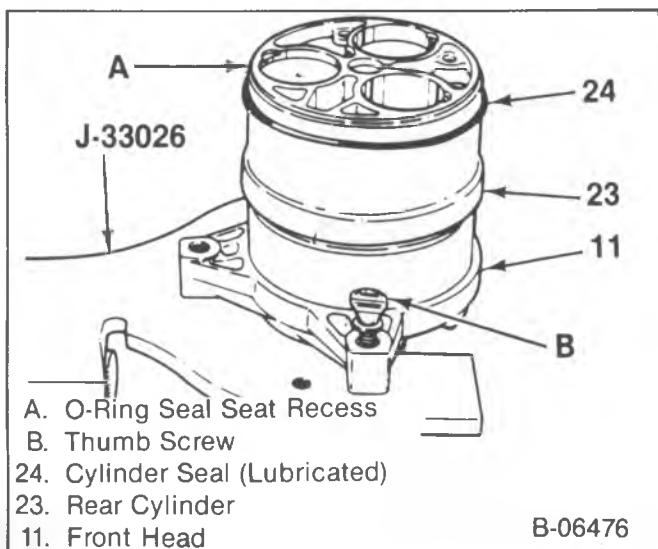
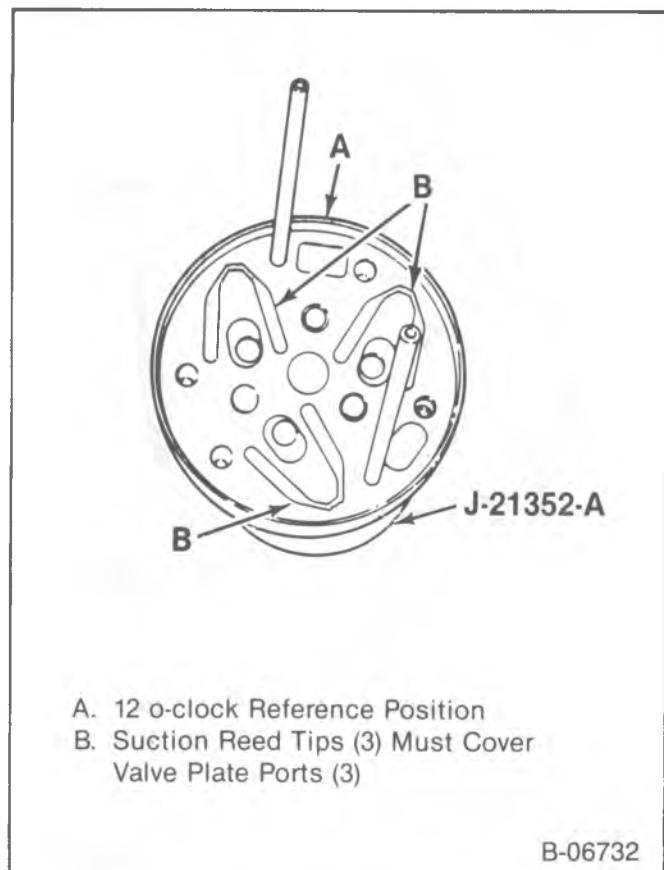

Figure 30 — Installing the O-Ring Seals on the
Figure 34 — Installing the Reed Plate
- Using a wood block, tap around the edge of the rear head (28) to ease removal.
- Mount the compressor on J 33026 front head (11) down (figure 30).
- 7. Head gasket (27).
- 8. Valve plate (26).
- 9. Suction reed plate (25).
- 10. Cylinder seal (24).
- 11. Cylinder (23).
4. Suction reed plate (25).
- Over the guide pins into proper position (figure 34).
- Be sure all three suction reed tips cover the suction ports in the rear valve plate (26).
5. Cylinder seal (24).
- Lubricate a new cylinder seal (24) with clean 525 viscosity refrigerant oil and position the seal on the rear cylinder (23) (figure 30). Roll the cylinder seal into the groove. Cylinder (23) surface must be clean at the rear.